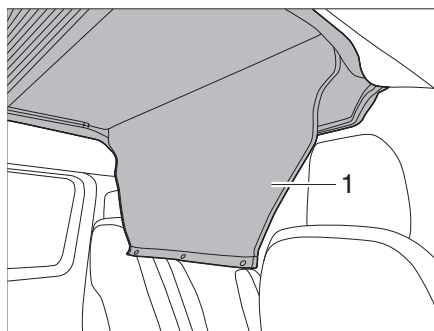

Fig. 16 Rolling up the access cover
- Open the entrance cover (Fig. 16,1) and roll it up.